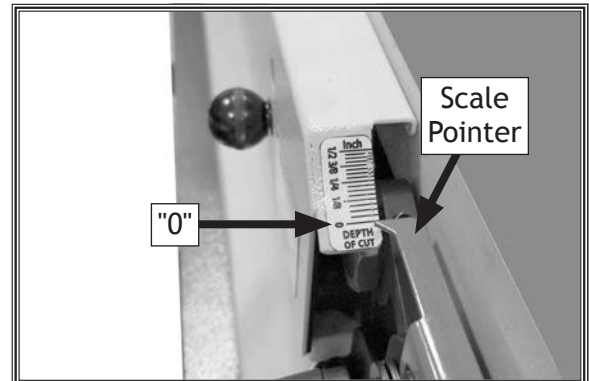

Figure 60. Depth-of-cut scale set to "0".
5. Loosen button head screws that secure scale pointer, adjust scale pointer to "0," then re-tighten screws (see **Figure 60**).